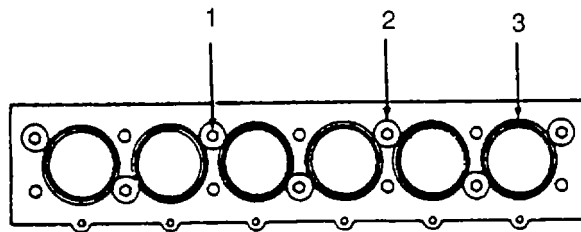

FIGURE 3-140. Fastening Cylinder Liners
- Use short capscrews (1, FIGURE 3-140) and 1/8 inch (3.18 mm) thick washers (2) to bolt down cylinder liners (3). Fasten liners in seven locations. Tighten capscrews to 50 ft-lbs (68 Nm).
- b. Remove capscrews (1, FIGURE 3-140) and washers (2) securing liners (3) to engine block.